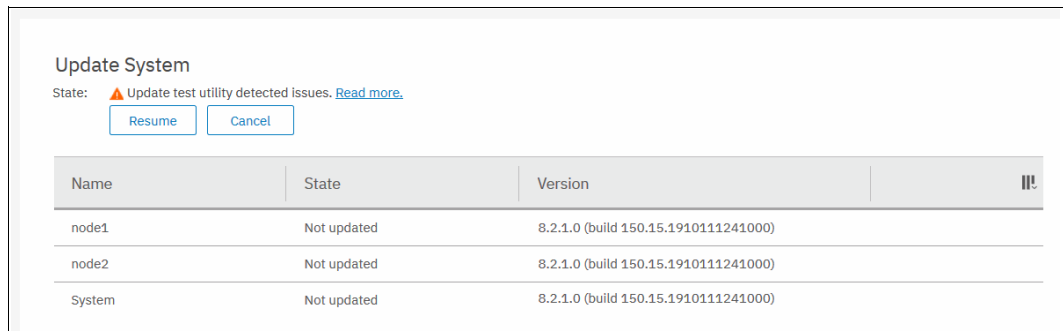

Figure 13-20 Issues that are detected by the update test utility
6. After the update packages upload, the update test utility looks for any known issues that might affect a concurrent update of your system. Click **Read more** (see Figure 13-20).